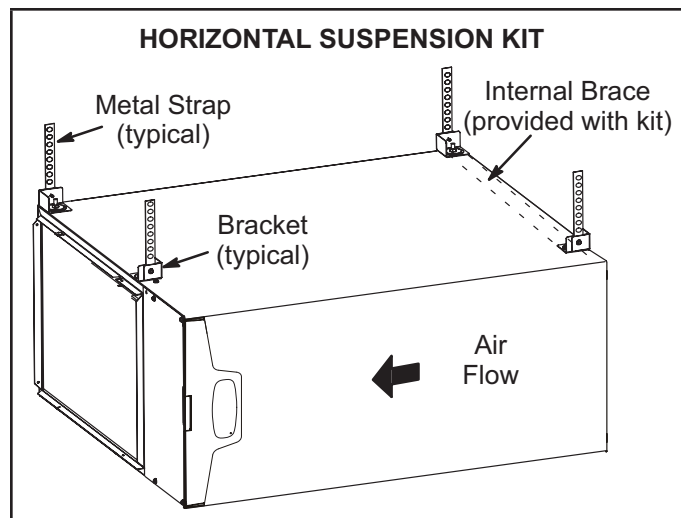
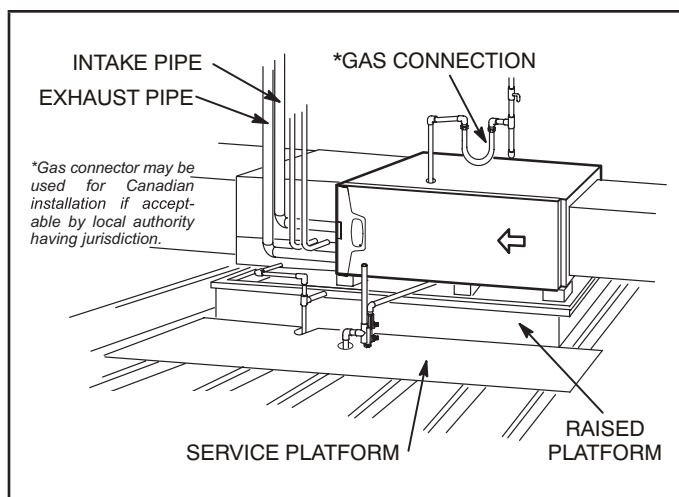

Figure 18
Figure 19
This furnace may be installed in either an attic or a crawlspace. Either suspend the furnace from roof rafters or floor joists, as shown in Figure 18, or install the furnace on a platform, as shown in Figure 19. A horizontal suspension kit (51W10) may be ordered from Lennox or use equivalent.
- 2 - Construct a raised wooden frame and cover frame with a plywood sheet. If unit is installed above finished space, install an an auxiliary drain pan under unit. Set unit in drain pan as shown in Figure 19. Leave 8 inches for service clearance below unit for condensate trap.